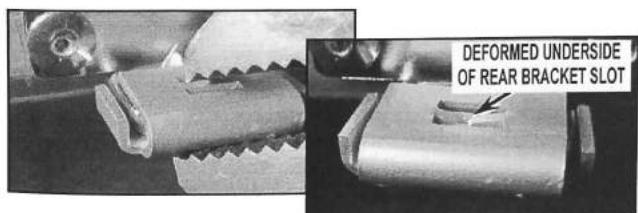

FIGURE 11
c) Secure the bracket on the tab by deforming the underside of the rear bracket slot. See Figure 11.